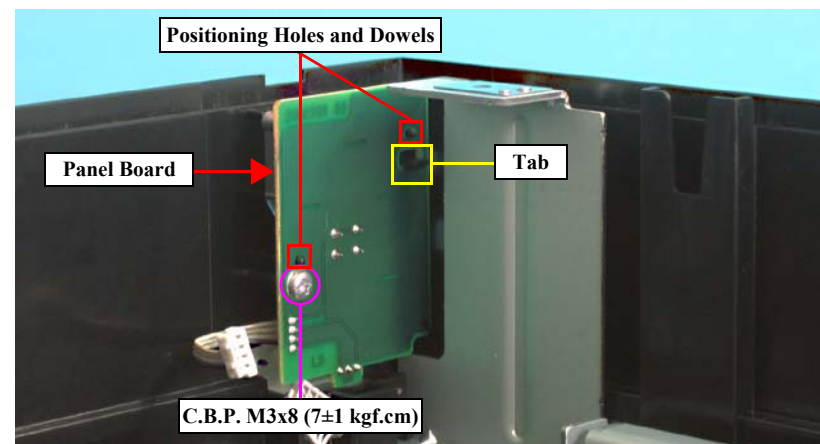

Figure 4-16. Removing the Panel Board
- When installing the Panel Board, match the positioning holes and the guide pins as shown in Figure 4-16.